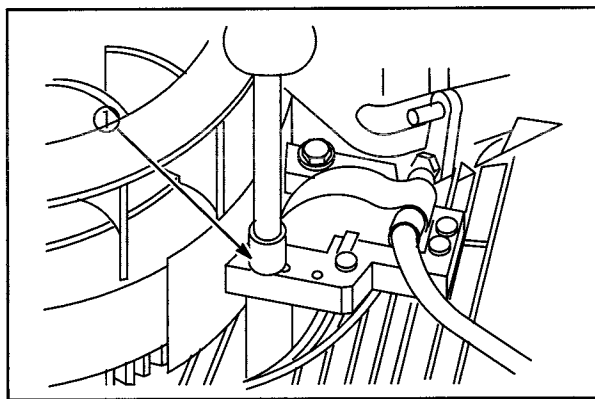

Fig. 6
3. Place thickness gauge (1) between magnet and armature laminations, **Fig. 6**.